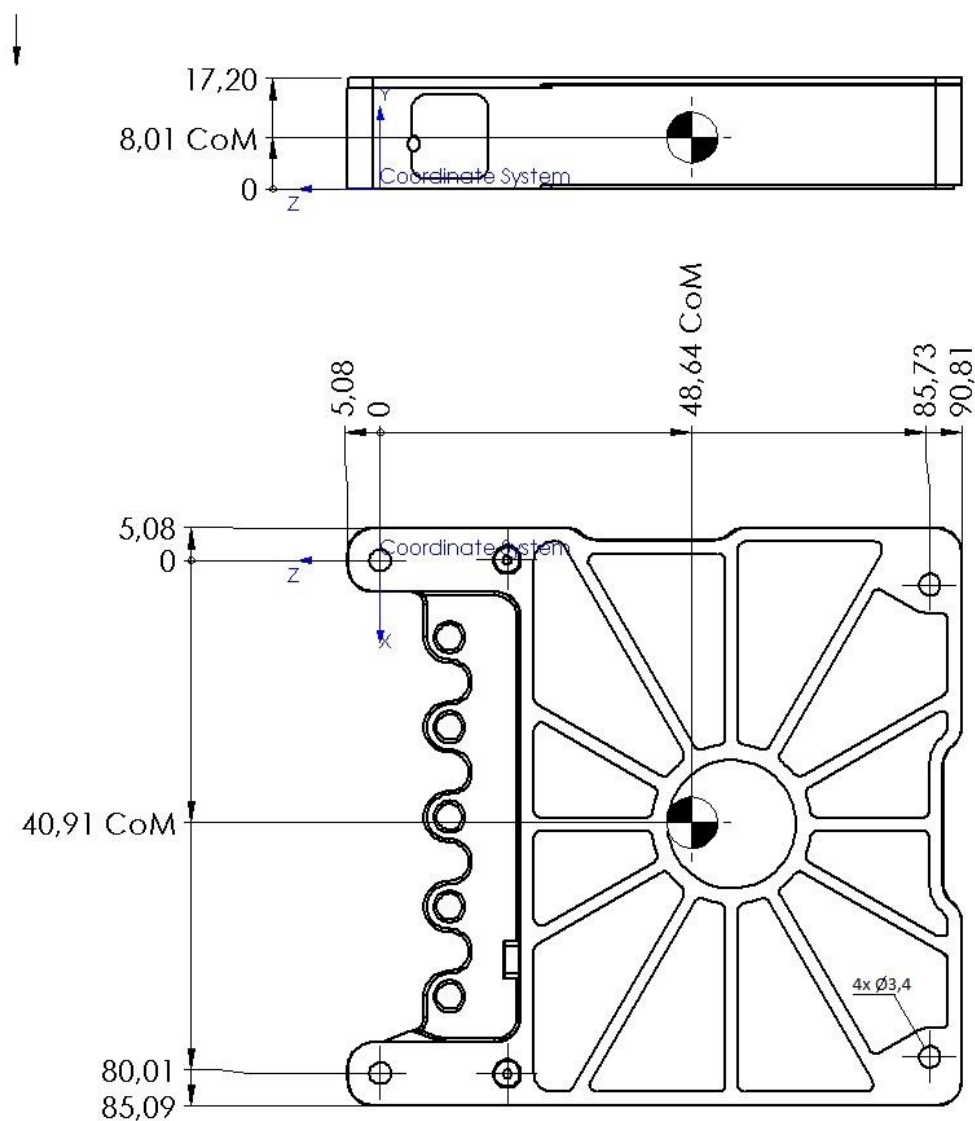
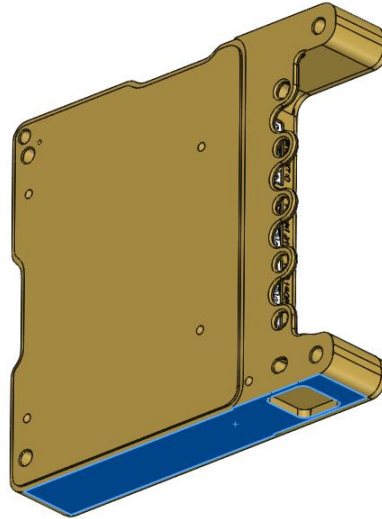

Figure 2 - The dimensions of the Sirius OBC product, all measurements in mm
Figure 3 - The Sirius products thermal interface
- Figure 2, mechanical hole dimension added
The center of mass (CoM) is identified in Figure 2 with the origin and direction of the coordinate system indicated by the blue text.
The moment of inertia (MoI) for the mechanical structure is defined by the table below using the coordinate system origin is defined by Figure 2.
The primary thermal interface area of the unit is the flat surface on the +x face of the unit as shown in Figure 2 and marked blue in Figure 3. The maximum allowed temperature at the thermal interface is 60°C, this figure is what has been used for design analysis and exceeding it will violate component derating rules. The size of the thermal interface area is 1212.75 mm².